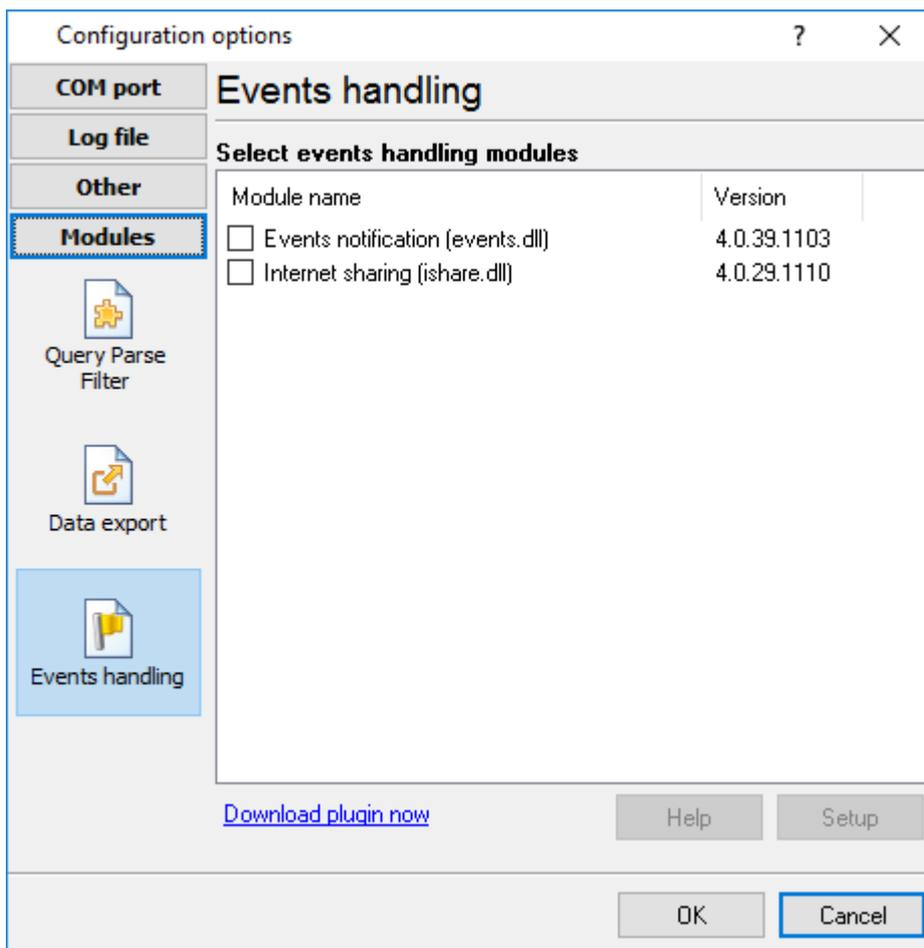

Fig. 17. Activating events handling plugins
- **Data export** (fig. 17) - Log Monitor & Export has many modules and method for passing data to other applications, for example, there are modules for various databases, file formats (CSV, XML), data interfaces (OPC, DDE, MQTT), and many others.